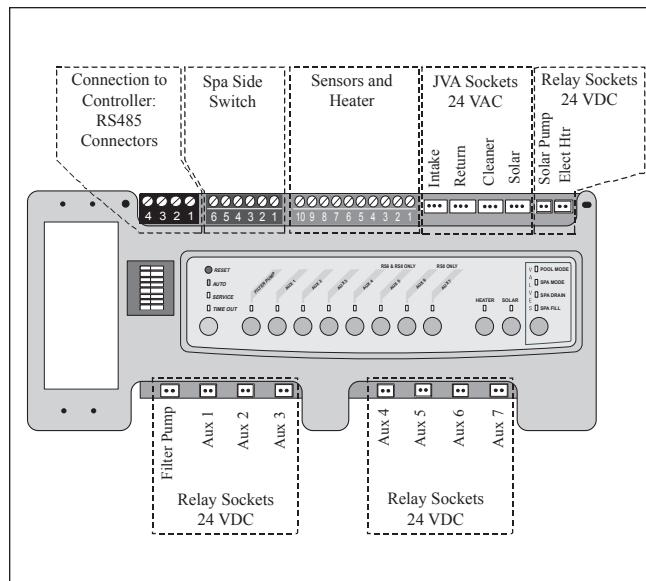
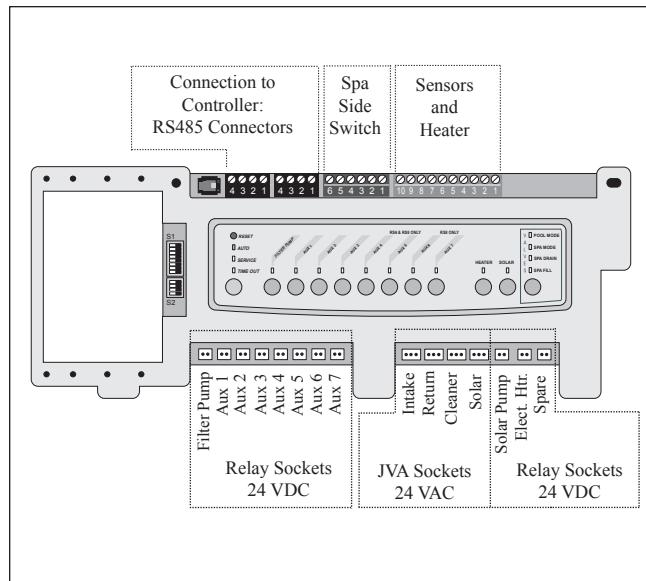

Figure 27. PCB Board with Firmware REV MMM or Lower
Figure 28. PCB Board with Firmware REV N or Higher
To provide "smart" communication between the LXi and an AquaLink® RS PCB Board through a red four-pin RS485 connector, your PCB firmware must be Rev N or higher, as shown in Figure 28. To determine the REV of the PCB firmware in your system, refer to Table 7 and Figures 27 and 28.
If your PCB firmware is REV MMM or lower, as shown in Figure 27, connect the heater to the control as indicated in Section 6.5.2.
If your PCB firmware is REV N or higher, as shown in Figure 28, continue to follow the procedures in this section.
**NOTE** Only an RS System with firmware revision "N", or higher, will support the LXi heater interface. Refer to Table 7 and Figures 27 and 28 to determine the REV of your system's firmware. If it is "N" or higher, continue with these procedures. If it is MMM or lower, follow the procedures in Section 6.5.2.